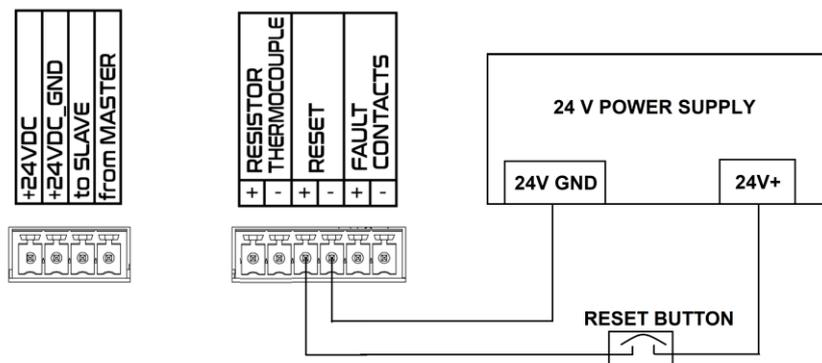

Figure 13 Reset contact connections
The braking chopper is equipped with High Voltage, High Temperature, and Short Circuit (SC) protection. Upon detecting any of these faults, the device ceases operation and enters a fault state, which is indicated via its LEDs and the "FAULT CONTACTS" output. Generally, the system automatically clears the fault state once the underlying cause is resolved. However, a Short Circuit (SC) fault is not cleared automatically. Following an SC fault, the issue must be resolved, and an external RESET signal must be applied to the "RESET" terminal. A reset button should be connected as depicted in Figure 13, using twisted-pair cables with a maximum length of 20 meters.